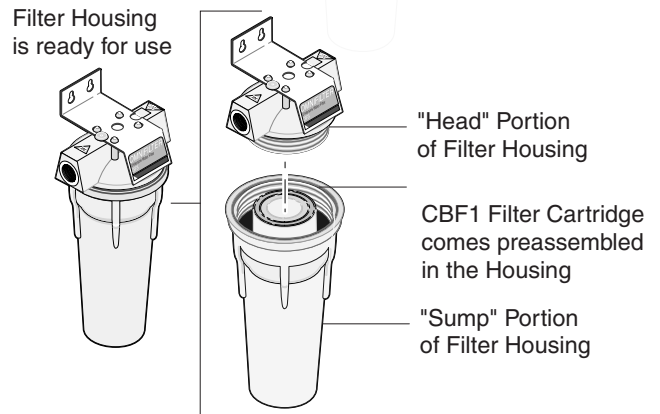

Figure 6
3. The filter cartridge comes preassembled in the filter housing. See Figure 6 for the filter cartridge components.